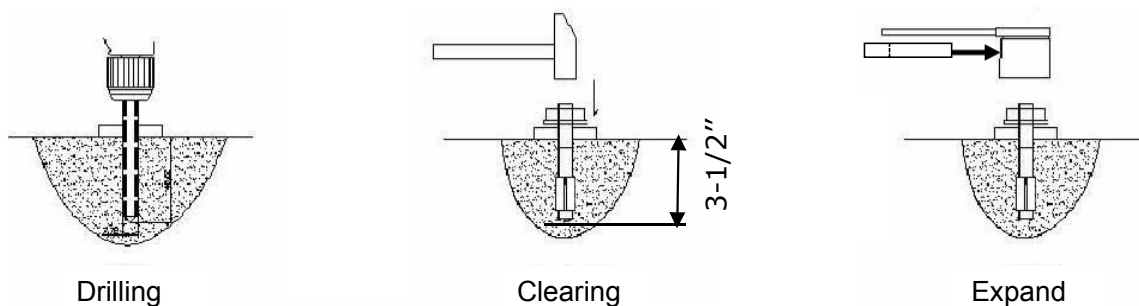

Fig.23
2. Using the prescribed rotary hammer drill, and drill all the anchor holes and install the anchor bolts. Make the columns plumpness, and adjusting with the shims if not, then tighten the anchor bolts (**See Fig. 23**).